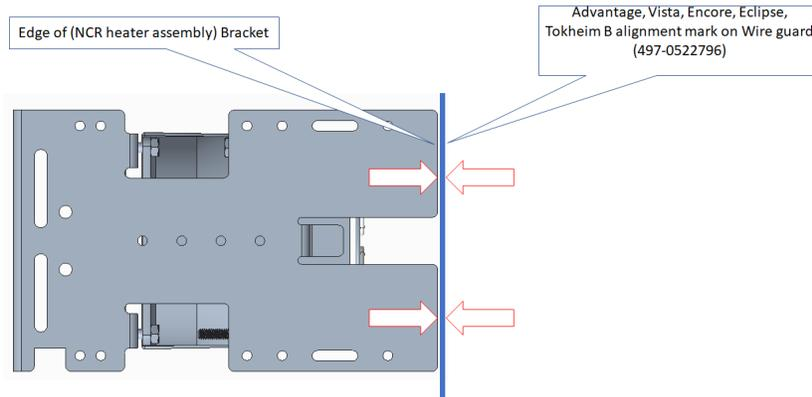
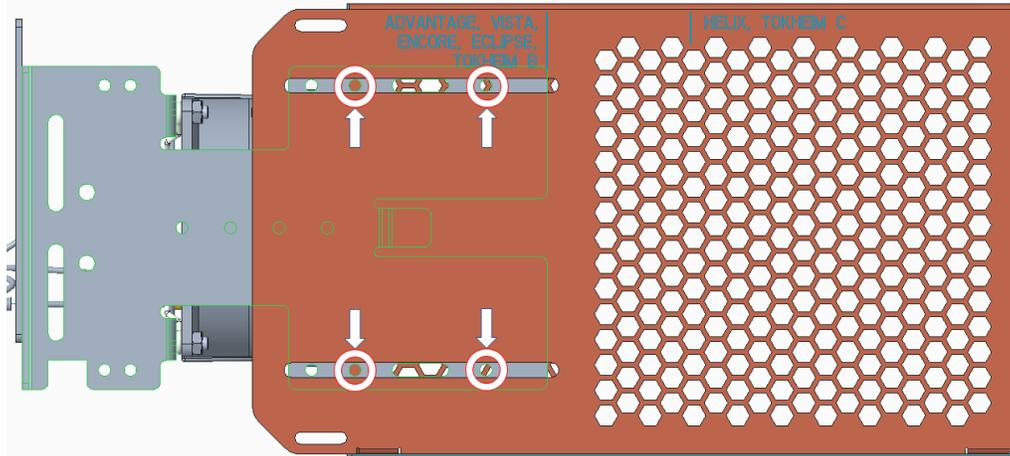

Figure 140
Figure 142
- 2) Slide the wire guard (497-0522796) around the NCR heater assembly so that the edge of the bracket aligns with the Advantage, Vista, Encore, Eclipse, Tokheim B alignment mark as shown in Figure 140 and Figure 142.
- 3) Insert and tighten four of the thread forming 006-8626667 screws at the locations shown in Figure 142 to secure the wire guard (497-0522796) to the NCR heater assembly.